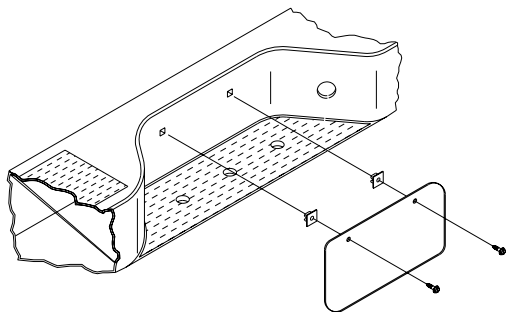

FIGURE 3
STEP 1: Using square plastic grommets and sheet metal screws, install license plate. See figure 3.